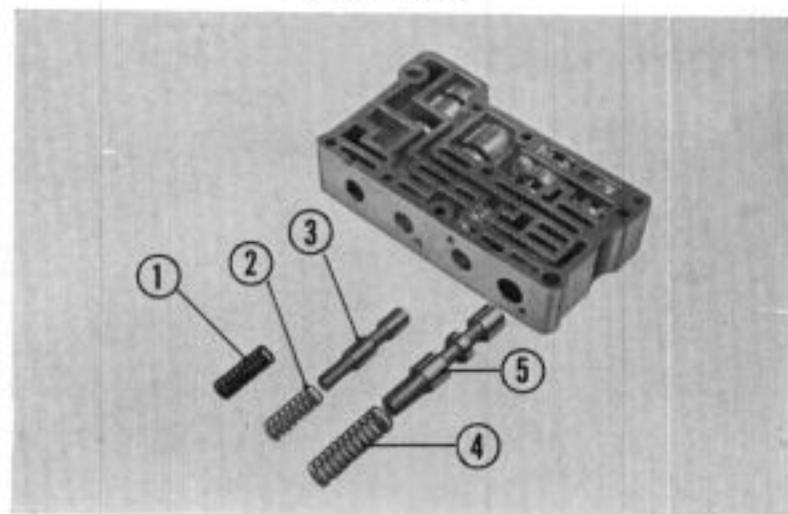

Fig. 7B-69
3. Loosen the bottom cover mounting screws and remove the bottom cover from the main valve body. (Fig. 7B-70)